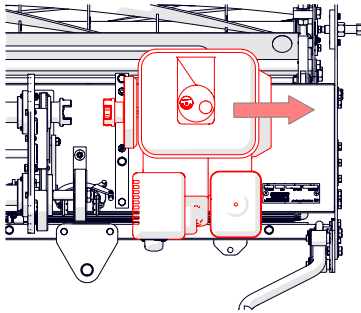

Fig. 17D - Slide engine away from coupling.
5. Check the fuel cap and engine oil plug are secure. Slide the engine towards the right hand side of the machine and remove safely to the side (Fig.17D).